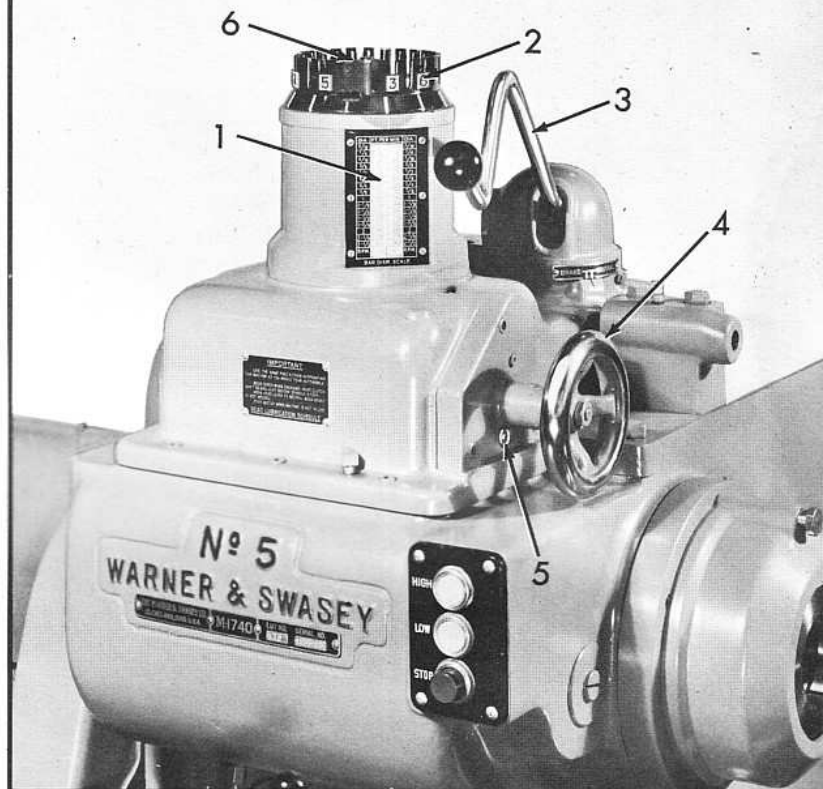
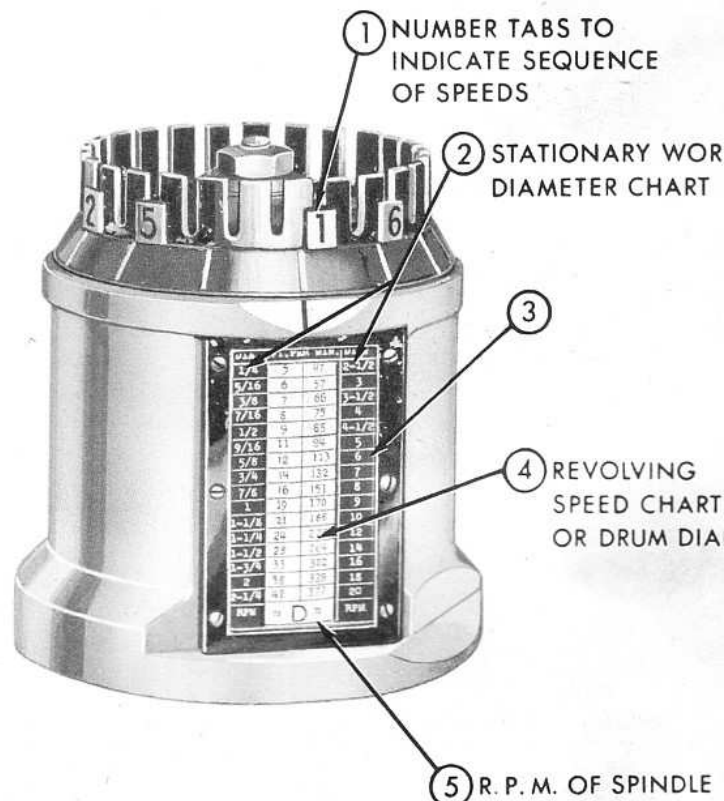
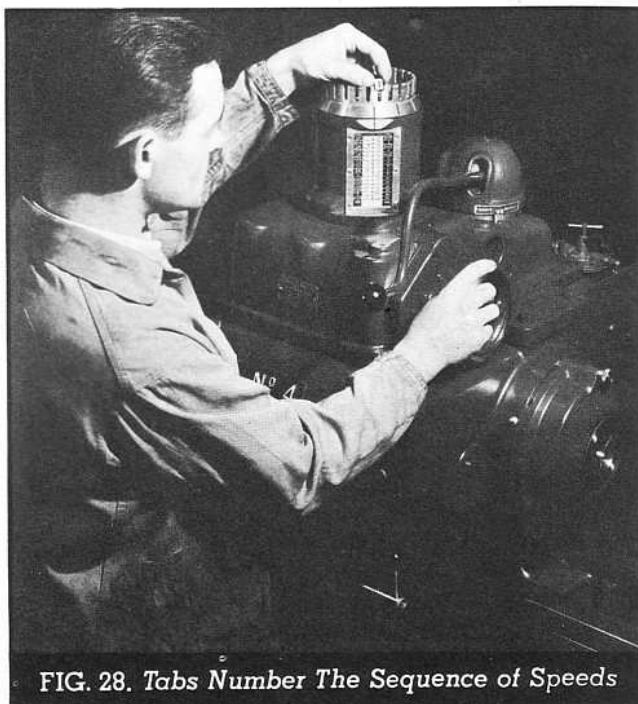

FIG. 25 The Preselector
FIG. 26 The Drum Dial, Number Tabs and Stationary Work Diameter Chart
FIG. 28. Tabs Number The Sequence of Speeds
1. The **CHART and DRUM DIAL** (1) Fig. 25, which shows surface speeds for all work diameters for the capacity of the machine, and which is rotated by the hand wheel (4) Fig. 25.
2. The **NUMBER TABS** (2) Fig. 25, on top of the drum, which show the correct speeds for each cut. After the machine is set up, the operator simply follows the number tabs.
3. The **SINGLE LEVER** (3) Fig. 25, which shifts all gears and operates the clutch and head brake. The operation of the Preselector is very simple. Study these instructions carefully to get the greatest benefit from the unit.
The Preselector is designed so that the operator can quickly select the correct r. p. m. to produce the proper surface feet per minute for any diameter to be cut by simply turning the handwheel (4) Fig. 25.
The proper surface speeds are selected by turning the handwheel (4) Fig. 25, which rotates the drum dial. The surface speed chart mounted on the drum dial, (shown in detail at (4) Fig. 26), gives surface speeds in *feet per minute* for the diameters shown on a stationary chart in the window (2) Fig. 26.
Turn the drum dial until a surface speed figure within this range appears in the window opposite the 6" diameter on the stationary chart as at (3) Fig. 26. In this particular case it would be 113 feet per minute. Insert the number tab 1 in the slot in the drum as shown (1) Fig. 26 (see also Fig. 28). In doing this you have selected and numbered the correct speed for the first cut.
The capital letter in the r. p. m. column, (5) Fig. 26, makes it easy to note for future reference the correct speeds used on a particular job.
Remove the nut (6) Fig. 25, which holds the drum dial, and lift the drum out of its housing. Remove the wire spring clip inside the drum and a new chart can be slipped in place.
In reassembling, the chart must be synchronized with the Preselector mechanism. This is accomplished by turning the handwheel (4) Fig. 25, until the line on the end of the spool shaft (5) Fig. 25, matches the line on the side of the head cover. Then pull the shifter lever down to lock the drum shaft. Rotate the drum until the neutral position on the chart is centered in the window. With the shifter lever still down, tighten the nut (6) Fig. 25, securely. Now, test the drum for lost motion. The line on the drum should move an equal amount to the left or right of the line on the housing. If this is not the case, loosen the nut and readjust the drum to centralize the location.
Caution: When tightening the nut (5) Fig. 25, be careful not to strike the prongs of the drum with your wrench. The drum is made of aluminum alloy and might easily be broken.